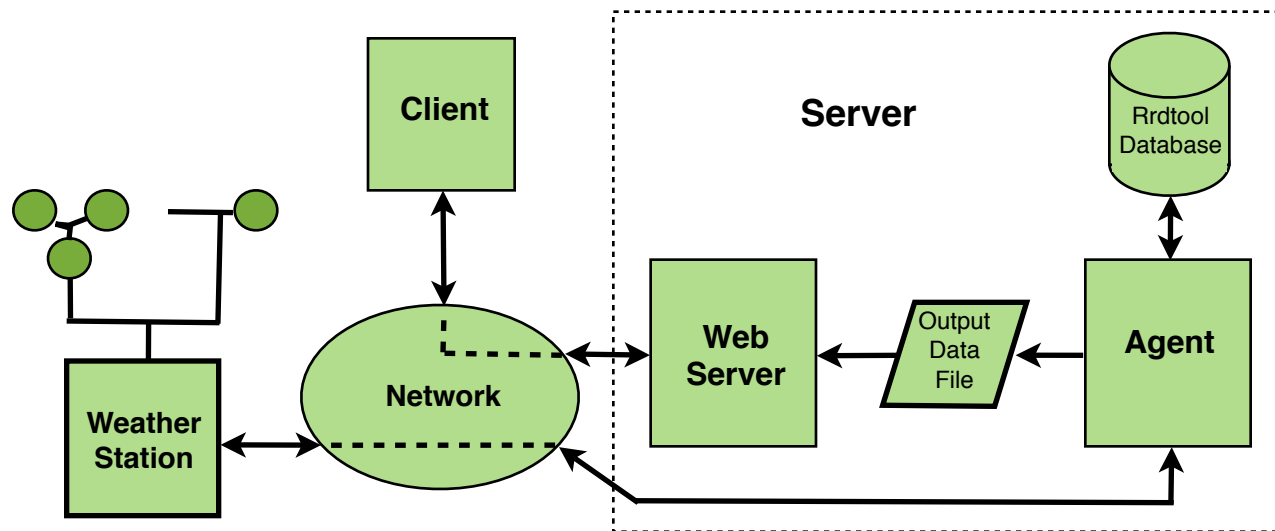

Figure 4. Block diagram of server software components showing data i/o, agent process, web server, and database elements.
Referring to figure 4, the server software consists essentially of two components: a web server component and an agent component. The web server component includes the HTML documents, which contain Javascript for displaying weather information. The agent, a Python script, manages data conversion and reformatting, updating a database, and routine weather station maintenance.
The reset command, always sent exactly at midnight, resets the daily total rain fall and maximum wind gust back to zero. After formatting the weather data, the agent writes the data to the *Output Data File* for use by HTML documents. When a client browser requests the weather HTML document, Javascript embedded in the document periodically requests the output data file and displays the data in an HTML document. Although not shown in figure 4, the agent, as mentioned earlier, generates graphic
3. The output data file (see figure 4) gets overwritten frequently and should not be stored on disk. Rather it is dynamic content that should be stored in the temporary